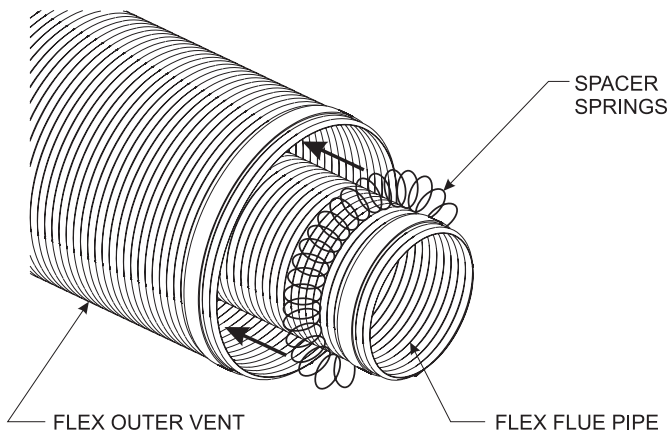

Figure 50
2. Check to see that the vent spacer springs are located around the flue vent at 8" intervals along its length. See Figures 50 & 51. If not, stretch the spacer springs to about 15" long and wrap them around the flue, then interlock the ends of each spring. Maintain equal distance between spring spacers.